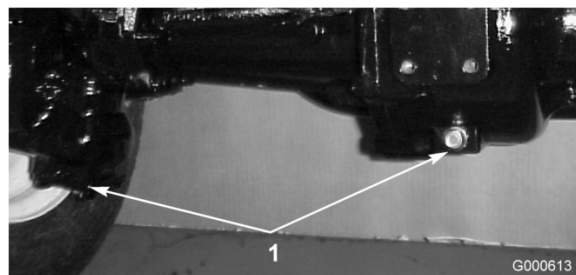

Figure 45
2. Clean the area around the 3 drain plugs, 1 on each end and 1 in the center (Figure 45).